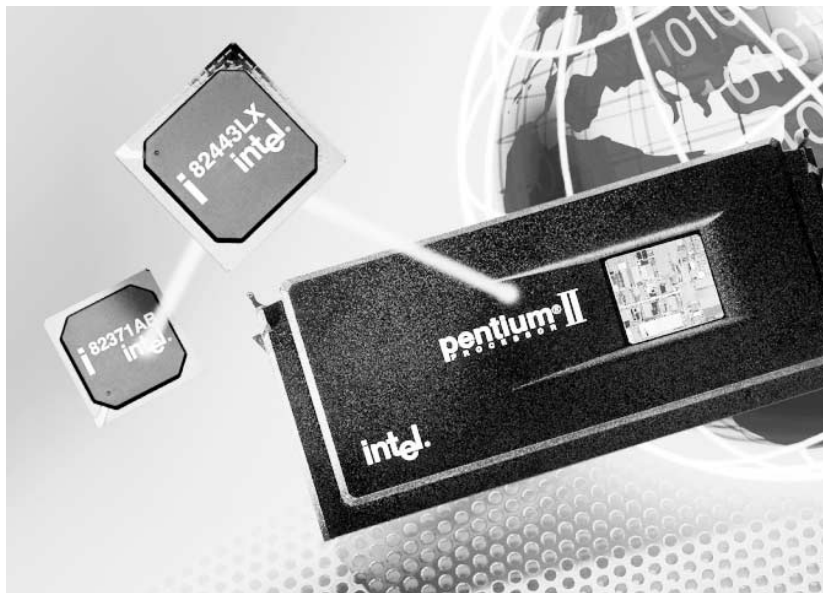

Figure 5-5. The Intel 440LX AGPset and the Pentium II processor. Photo courtesy of Intel Corporation
- **440LX** Designed for the Pentium II, this AGPset chipset provides support for the LS-120 “superdisk,” Ultra DMA, AGP, USB, SDRAM, ECC RAM, and the PC97 power management specification. Figure 5-5 shows this chipset.